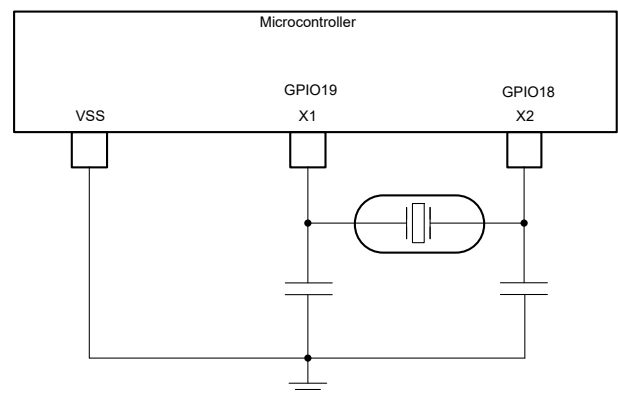

Figure 6-13. External Crystal
- An external crystal. The crystal should be connected across X1 and X2 with its load capacitors connected to VSS as shown in Figure 6-13.